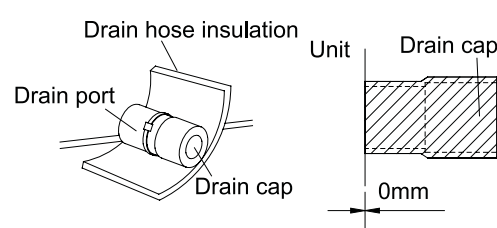

Figure 3-1-14
- (14). The unused drain port also should be insulated properly.( Figure 3-1-14)